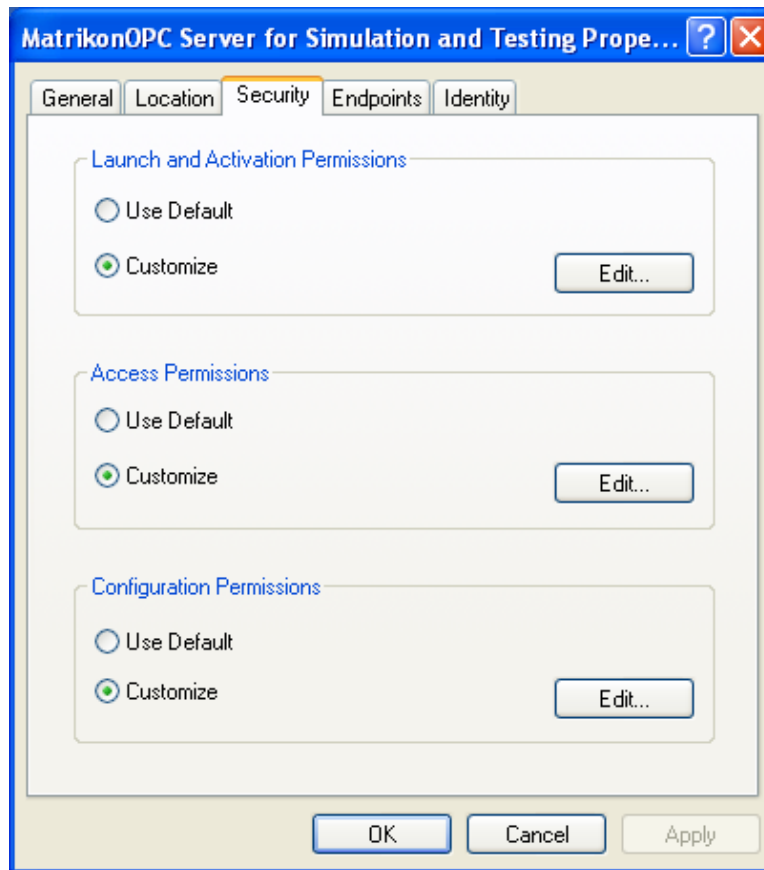

Figure 51 - Distributed COM Configuration Security Tab
5. The **Distributed COM Configuration Security** tab (Figure 51) appears.